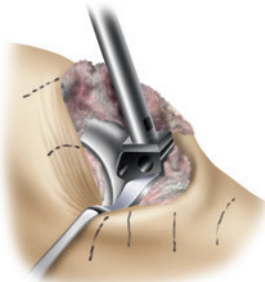

Figure 68
- 3 Use the impactor handle with the appropriately sized impactor head to fully seat the insert and engage the anterior portion of the dovetail locking mechanism (Figure 68).